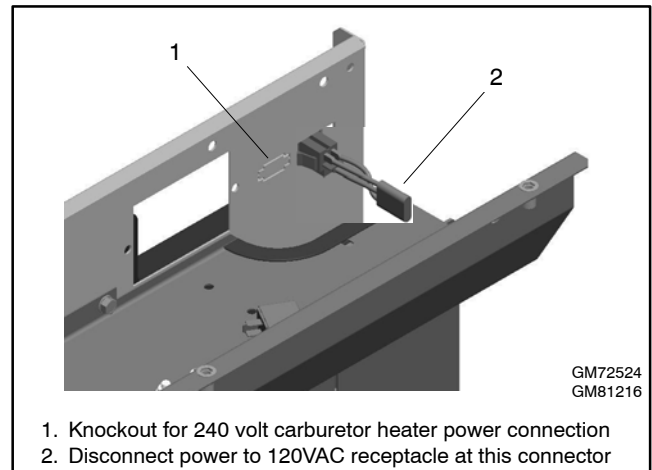

Figure 21 240 Volt Power Connection Location (controller and mounting plate removed for illustration)
- 7.6 Generator sets built after 10/9/2013 with serial numbers SGM327VFJ or later include a knockout for the power connector in the bulkhead. See Figure 21. Remove the knockout for the power cord connector.
- 7.9 Inside the controller junction box, locate the harness connected to the power receptacle. See Figure 21. Disconnect the harness at the 3-pin connector.